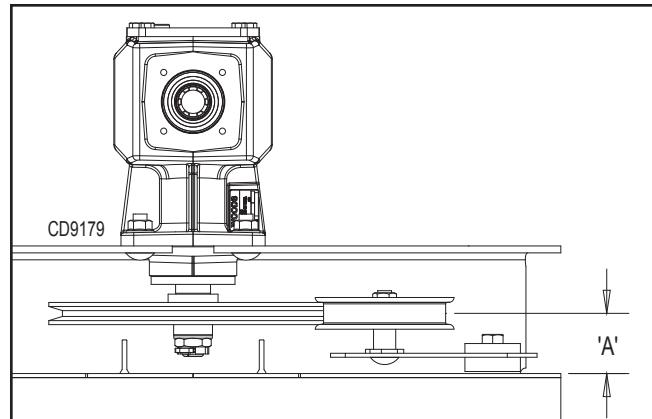

Figure 25. Drive Sheave Installation
1. Install drive sheave (48) and key (71) on gearbox output shaft.
2. Install sleeve (49), washer (50), and castle nut (52) on gearbox output shaft. Torque castle nut to 170 lb-ft. Install cotter pin (51) through castle nut and gearbox output shaft.
3. Slide gearbox onto gearbox stand. When gearbox is installed on mower, dimension A (from the top of mower deck to the center line of the drive pulley) must be 2-3/4" ( $\pm 1/8"$ ). **This is a critical dimension and must be carefully adjusted for proper belt life.** Add or subtract shim washers under idler sheave to align with drive sheave. See Figure 25.
4. Install carriage bolts (25) and new flange lock nuts (8) through gearbox base. Torque nuts to 175 lb-ft.